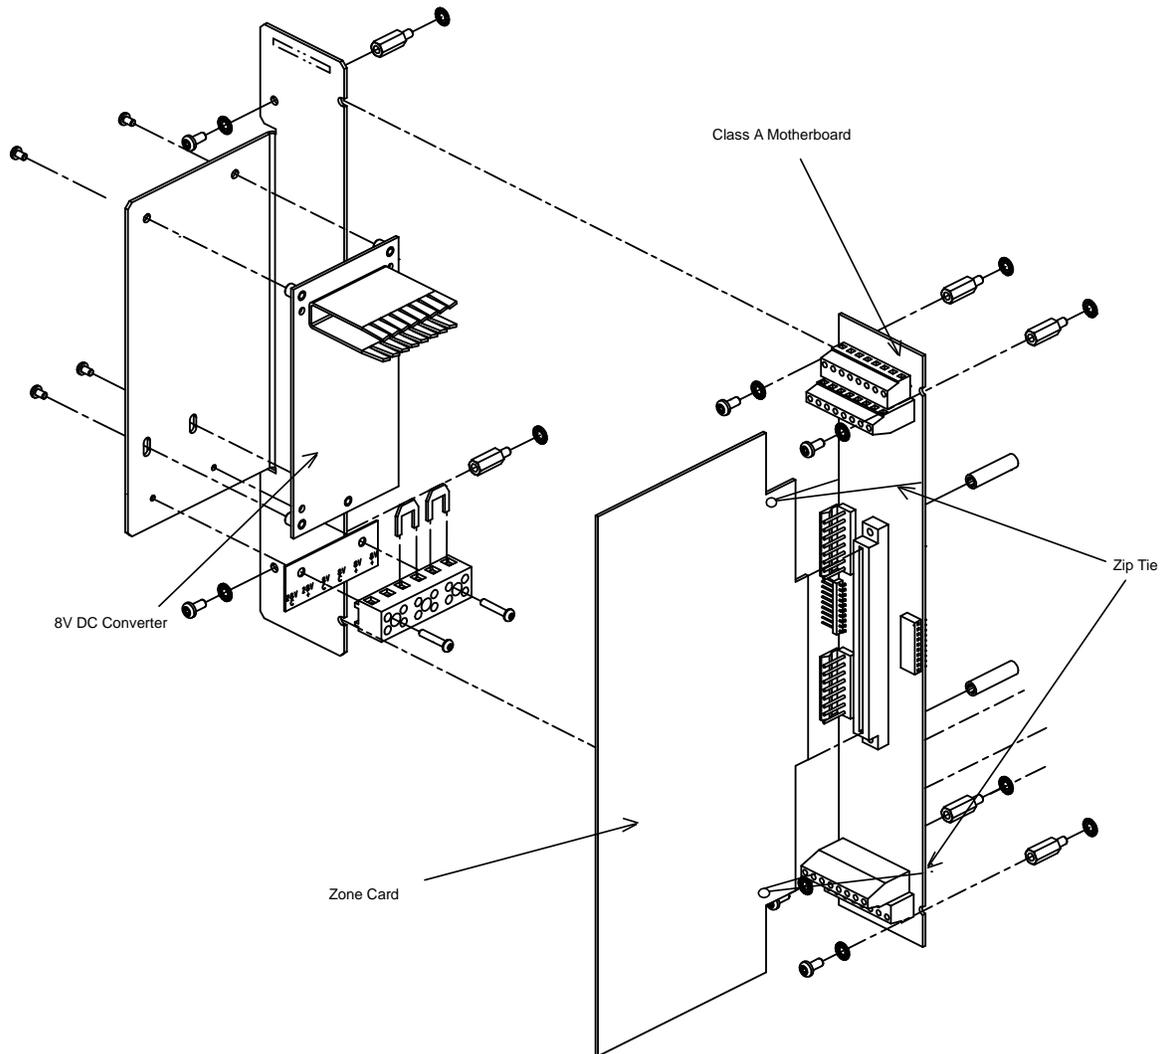
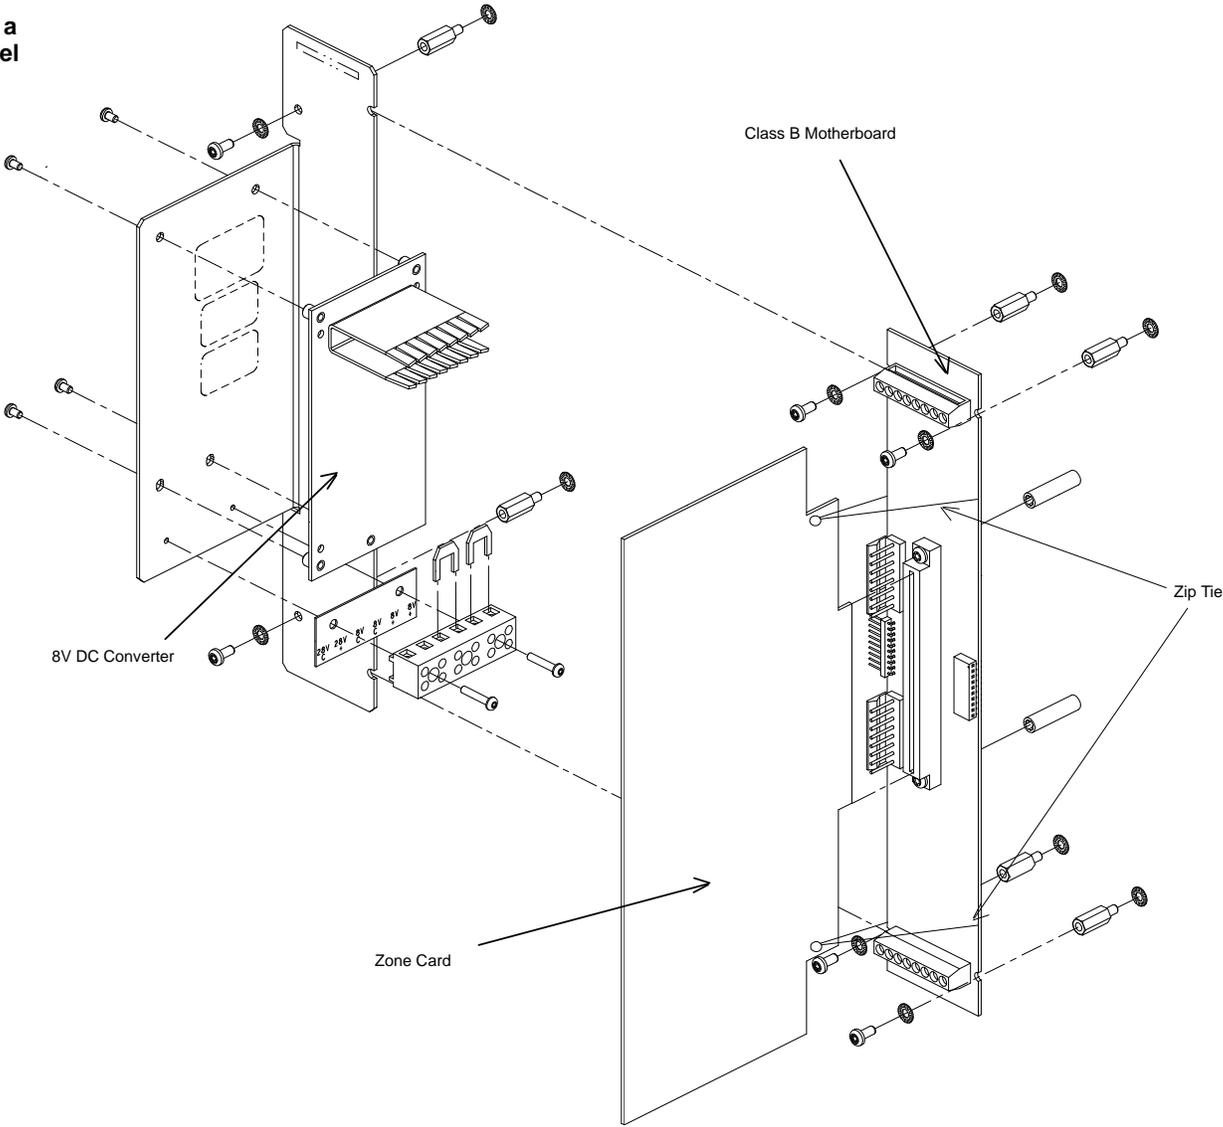
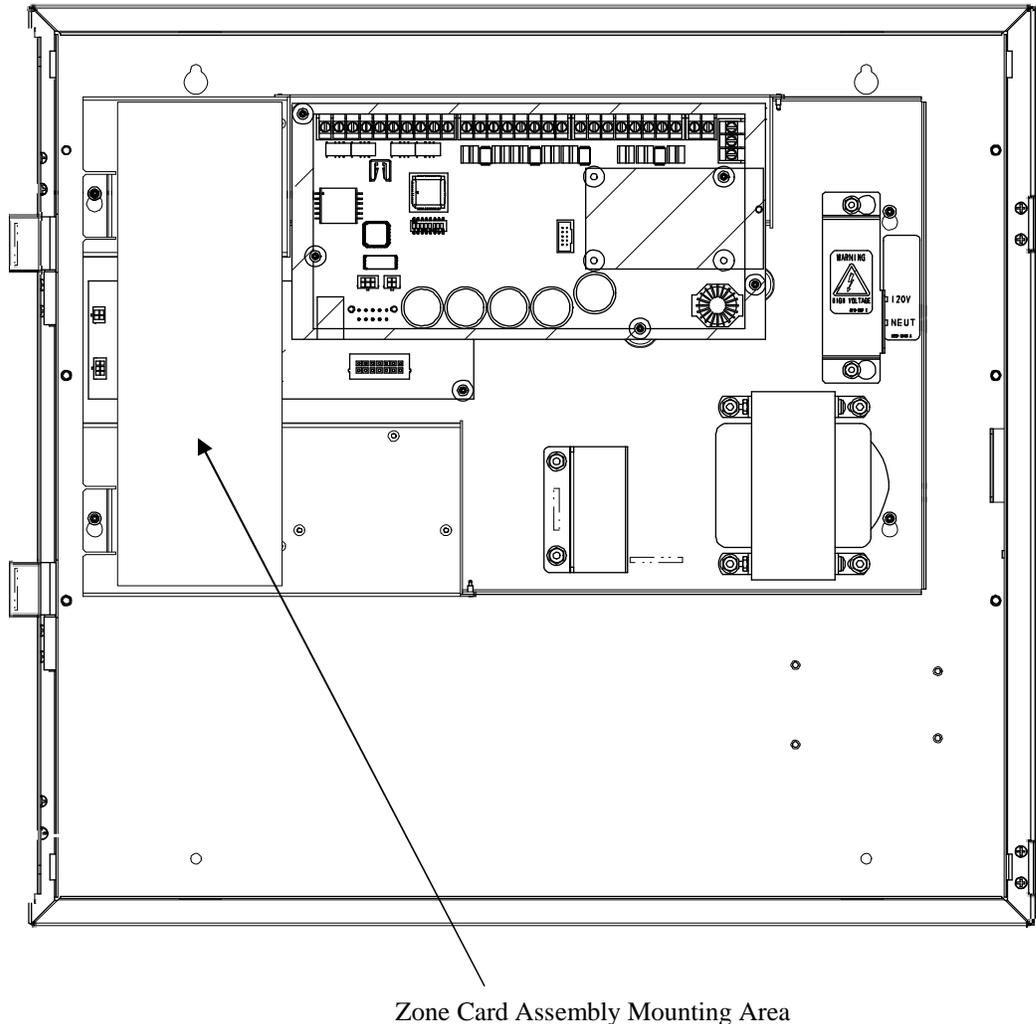

Figure 9. Class A 8 Zone Card Assembly
Figure 10. Class B 8 Zone Card Assembly
Figure 11. One-Bay Zone Card Mounting Area
The 4010ES Zone Card assembly is composed of a 8V DC Converter Assembly, the Zone Card and the Zone Card Motherboard. The 4010ES Zone Card assembly can be of Class A (4010-9921) or B (4010-9920). See Figures 9 and 10 for details.
Class A or Class B 8 Zone Card Assemblies must be mounted inside the top bay of the 4010ES panel. They occupy the leftmost vertical block pair in the top bay (Figure 11), making the two left-most PDI blocks unavailable.
1. Attach the 8V DC Converter and the Zone Card Motherboard in the area indicated by Figure 11. Use the pre-drilled holes in the bay pan, as well as stand-offs and metal screws as shown in Figures 9 and 10.
6. Slide the Zone Card into its slot on the Motherboard (Figure 9 or Figure 10).